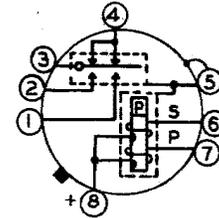

Fig. 54 – Winding and Spring Terminal Arrangement as Viewed From the Base — 275-, 276-, 291-, 303-, and 320-Type Relays
2.67 The contact and winding terminals are numbered in accordance with the BSP figures referred to on the circuit requirements table and shown in the apparatus requirement and adjusting procedures section covering these relays. As viewed from the base of the socket, the terminals are numbered numerically clockwise starting at the key as shown in Fig. 54. The terminals of 275-, 276-, 291-, 303-, and 320-type relays are numbered from 1 to 8, and those of 292-, 301-, and 321-type relays are numbered from 1 to 11 starting at the key.